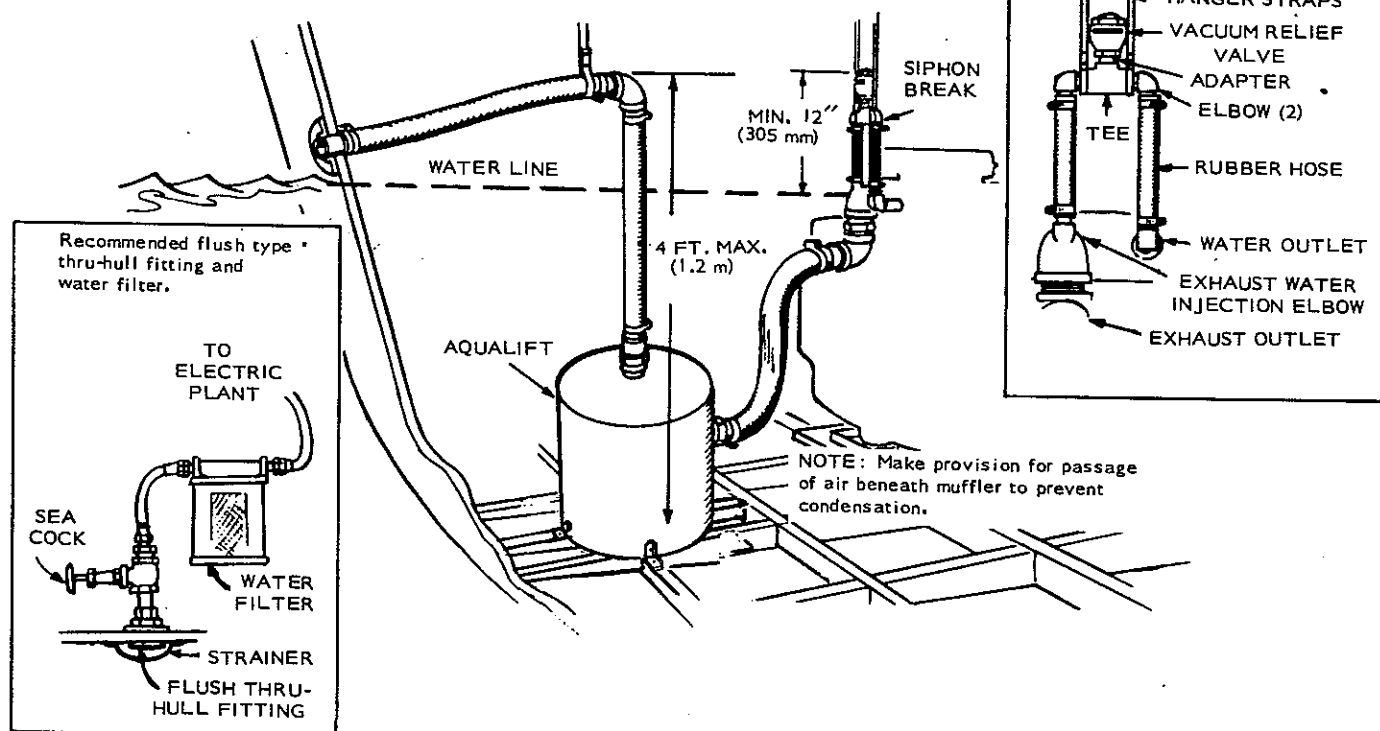

FIGURE 13-15. BELOW-WATER-LINE INSTALLATION
6. The distance from the base of the muffler to the upper elbow on the exhaust tubing from the muffler outlet must not exceed four feet (1.2 m), Figure 13-15.
7. A minimum drop of one foot (25.4 mm) is necessary between the upper elbow above muffler outlet and the exhaust outlet on the hull to prevent water from washing into the system (Figure 13-15).
Install Siphon Break Kit 155-0950 if exhaust injection elbow is below water line. Locate the siphon break at least 12 inches (305 mm) above load water line and in a vertical position. Remote mounting of the siphon break is permissible within a five foot (1.5 m) radius of water injection exhaust elbow. Maintain vertical position and height of valve. See Figure 13-15 for typical below water line installation.